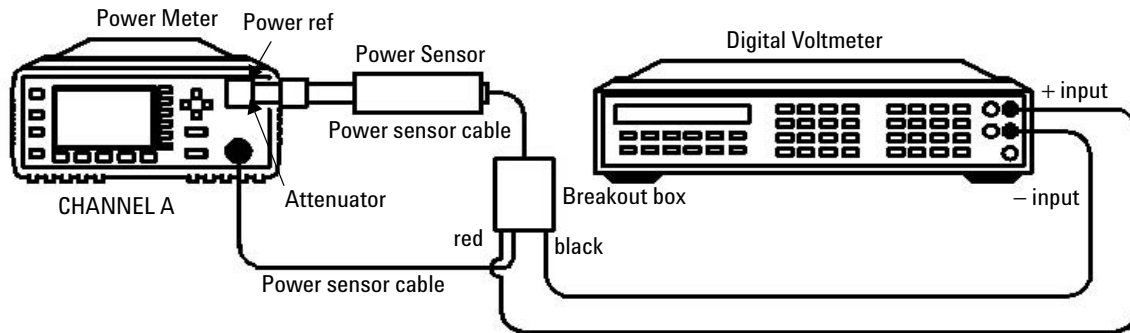

Figure 2-3 Test Setup With Attenuator Connected
- 11 Connect the 30 dB reference attenuator as shown in Figure 2-3: